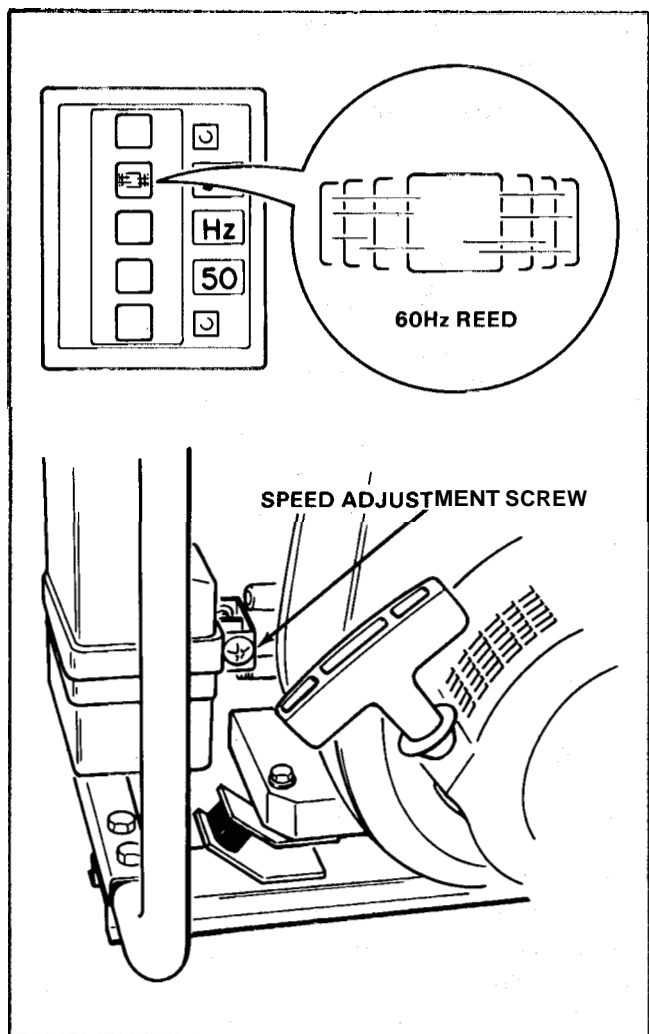

Figure 5
6. With the engine at 3600 rpm the 60Hz reed on the front of the generator will resonate. (some models are not equipped with a frequency meter.) See Figure 5.